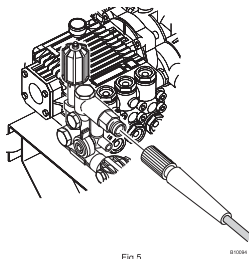
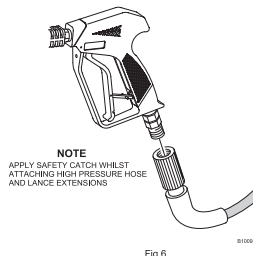

Fig 5. Connect the High-Pressure Hose to the Power Washer.
Fig 6. Connect the High-Pressure Hose to the Lance.
- 5.7 Connect the high-pressure hose to the power washer (fig 5) and to the lance (fig 6). Tighten as appropriate, do not over tighten. Ensure that the trigger safety catch is in the **ON position** whilst making these connections.